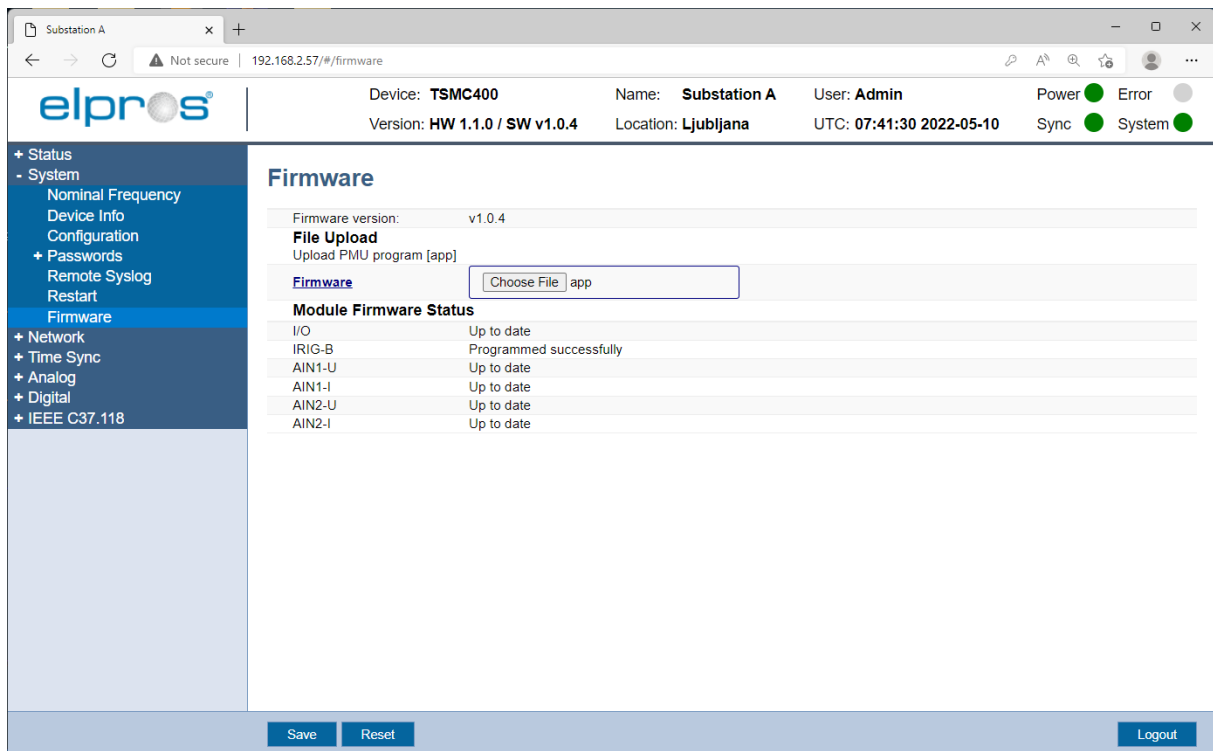

Figure 19: Select firmware to upload
4. Click-on the “Browse” button in the “Firmware” section and navigate to your local folder where the downloaded firmware version is stored (TSMC400 firmware filename is “app” without file name extension), see Figure 19.